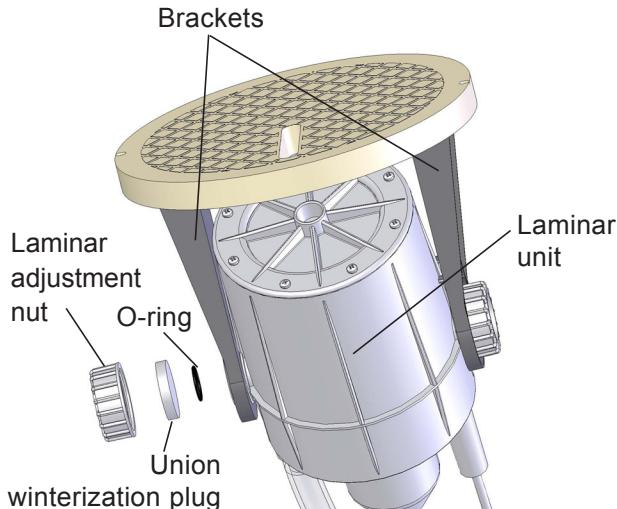
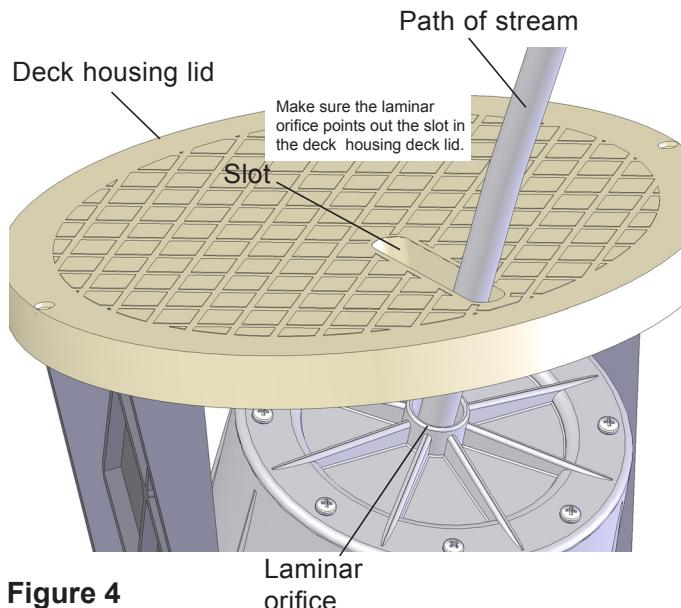

Figure 3
Figure 4
- Carefully spread the brackets and slide the Laminar unit into the holes in the brackets (Figure 3), making sure the Laminar orifice is pointed out the top slot in the deck housing lid (Figure 4).